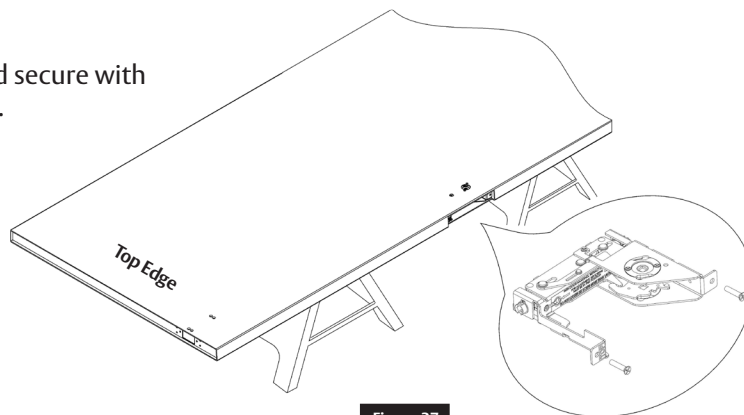

Figure 37
- Slide the LBC into the door case and secure with two (2) #12-24x1" flat head screws. (Figure 37)